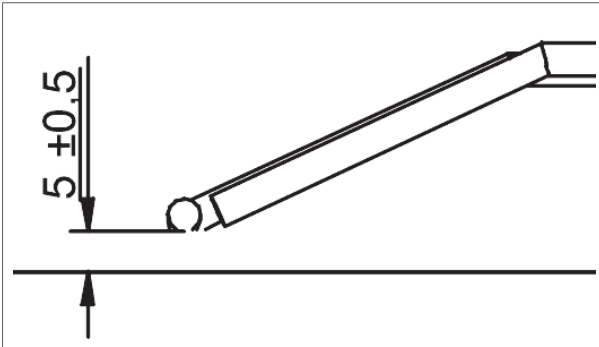

Figure 23- Distance between the electrode and the burner
- a. The distance between the electrode and the burner should be (\pm) mm (figure 23).